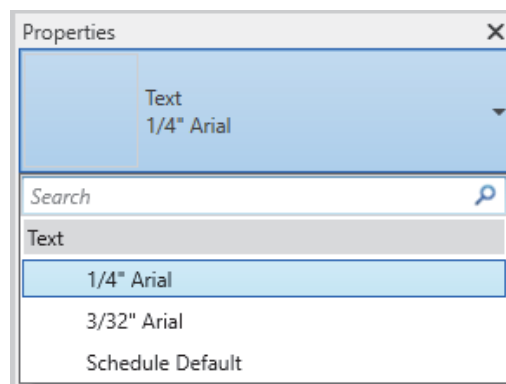

Figure 1–44
2. Expand the list in the Type Selector. Only a few text types are available, as shown in Figure 1–44.